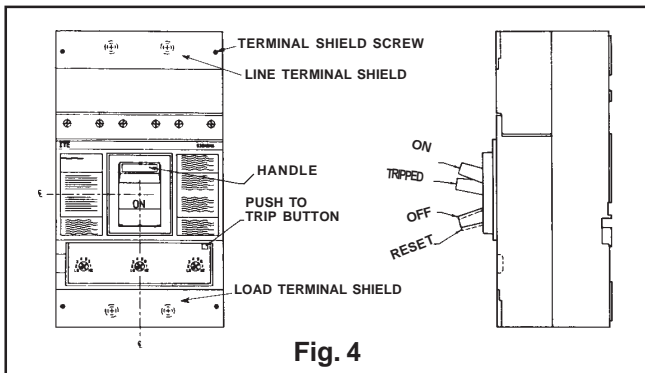

Fig. 4
3. Remove the line and load terminal shields (see Fig. 4) by loosening the two terminal shield screws that attach them to the line and load covers.
Manual operation of the circuit breaker is controlled by the circuit breaker handle and the PUSH-TO-TRIP button. The handle has three indicating positions, two of which are molded into the handle to indicate ON and OFF. The third position indicates a TRIP position and is between the ON and OFF positions. (See Fig. 4)